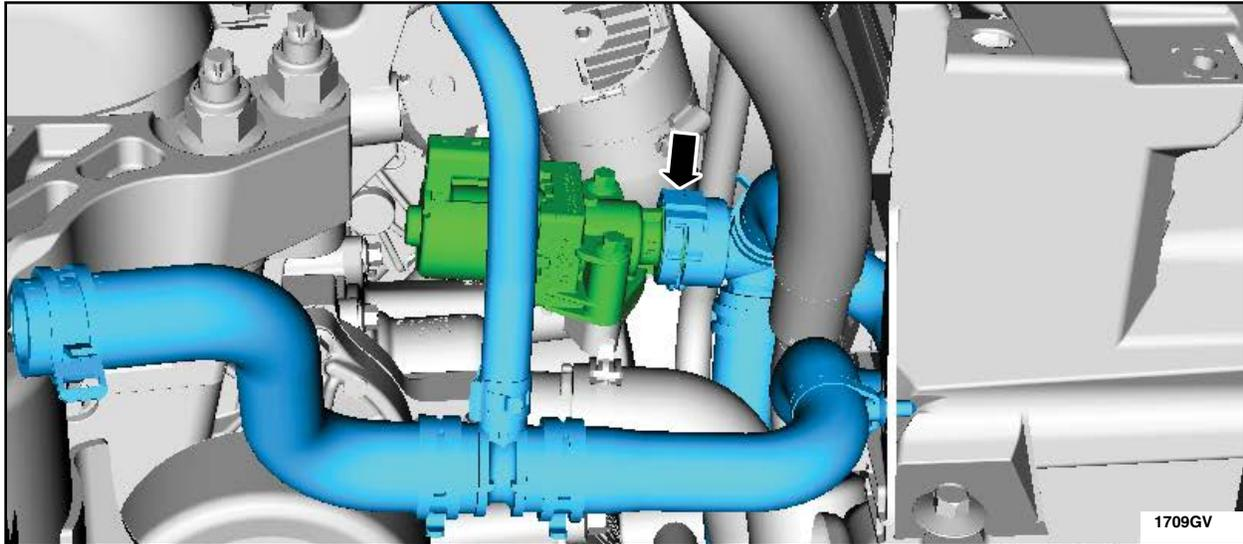

FIGURE I9
9. Connect the thermostat quick connect fitting to the thermostat housing. See Figure I9.